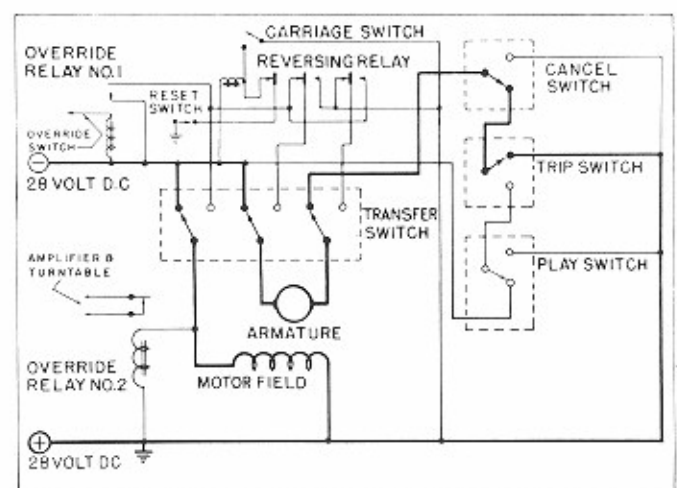

Fig. 51 PHASE 6 - TRIP SWITCH FUNCTION
f. Phase 6 -- Trip Switch Function. (Fig. 51)
The function of the trip switch, as shown in heavy lines, Figure 51, is to open the shunt circuit and apply positive 28 volt D.C. to one side of the armature of the changer motor. As the motor resumes its counter-clockwise rotation the mechanism cycle will advance. Within several degrees, mechanical action actuates the play switch and then releases the trip switch.
An examination of Figure 51, shown in heavy lines, finds negative 28 volt D.C. is present at one side of the changer motor field and one side of the changer motor armature. Positive 28 volt D.C. is present at the opposite sides of both. Over-ride relay No. 2, not shown in heavy lines, still remains energized due to the position of the transfer switch.